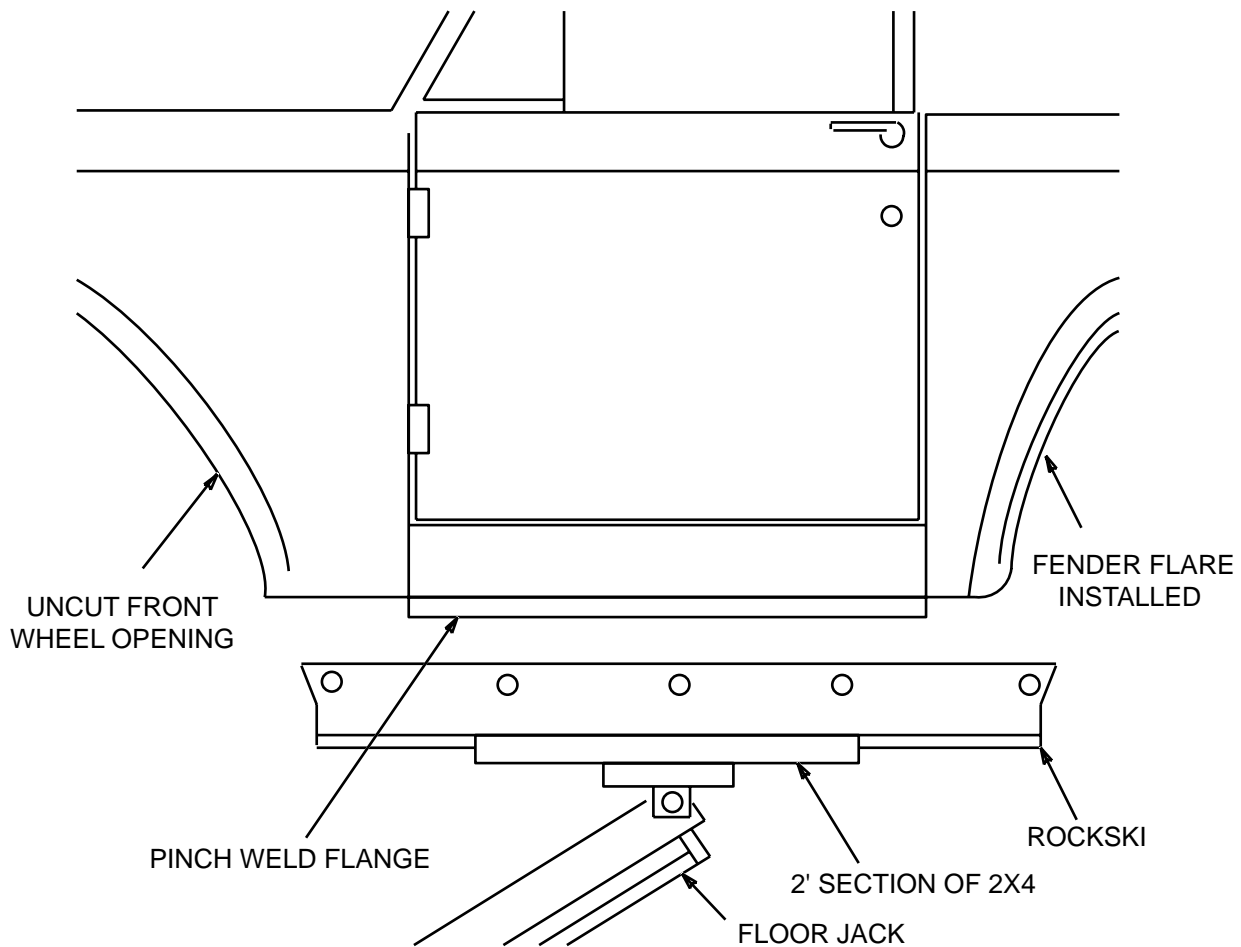

Figure 1
1. Make sure that the pinch weld flange at the bottom of the rocker panel is straight. (Ssee figure 1)
2. Position the 2 X 4 on the wide flat area at the bottom of the Rockski. Position the jack under the 2 X 4 to hold the Rockski in position as shown in Figure 1.